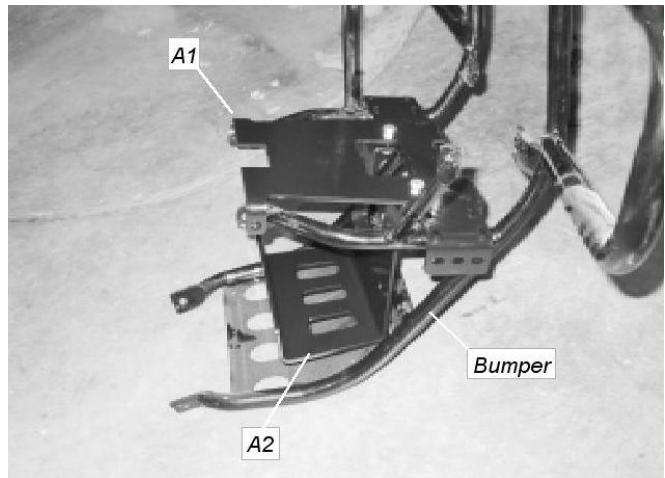

Figure 13 Place Upper and Lower Brackets inside Bumper
5. Place the upper mounting bracket (A1) and lower mounting bracket (A2) inside the removed front bumper as shown in figure 13. Be sure the ends of the two horizontal tubes on the bumper are on the inside of the two rear flanges on the upper mounting bracket.